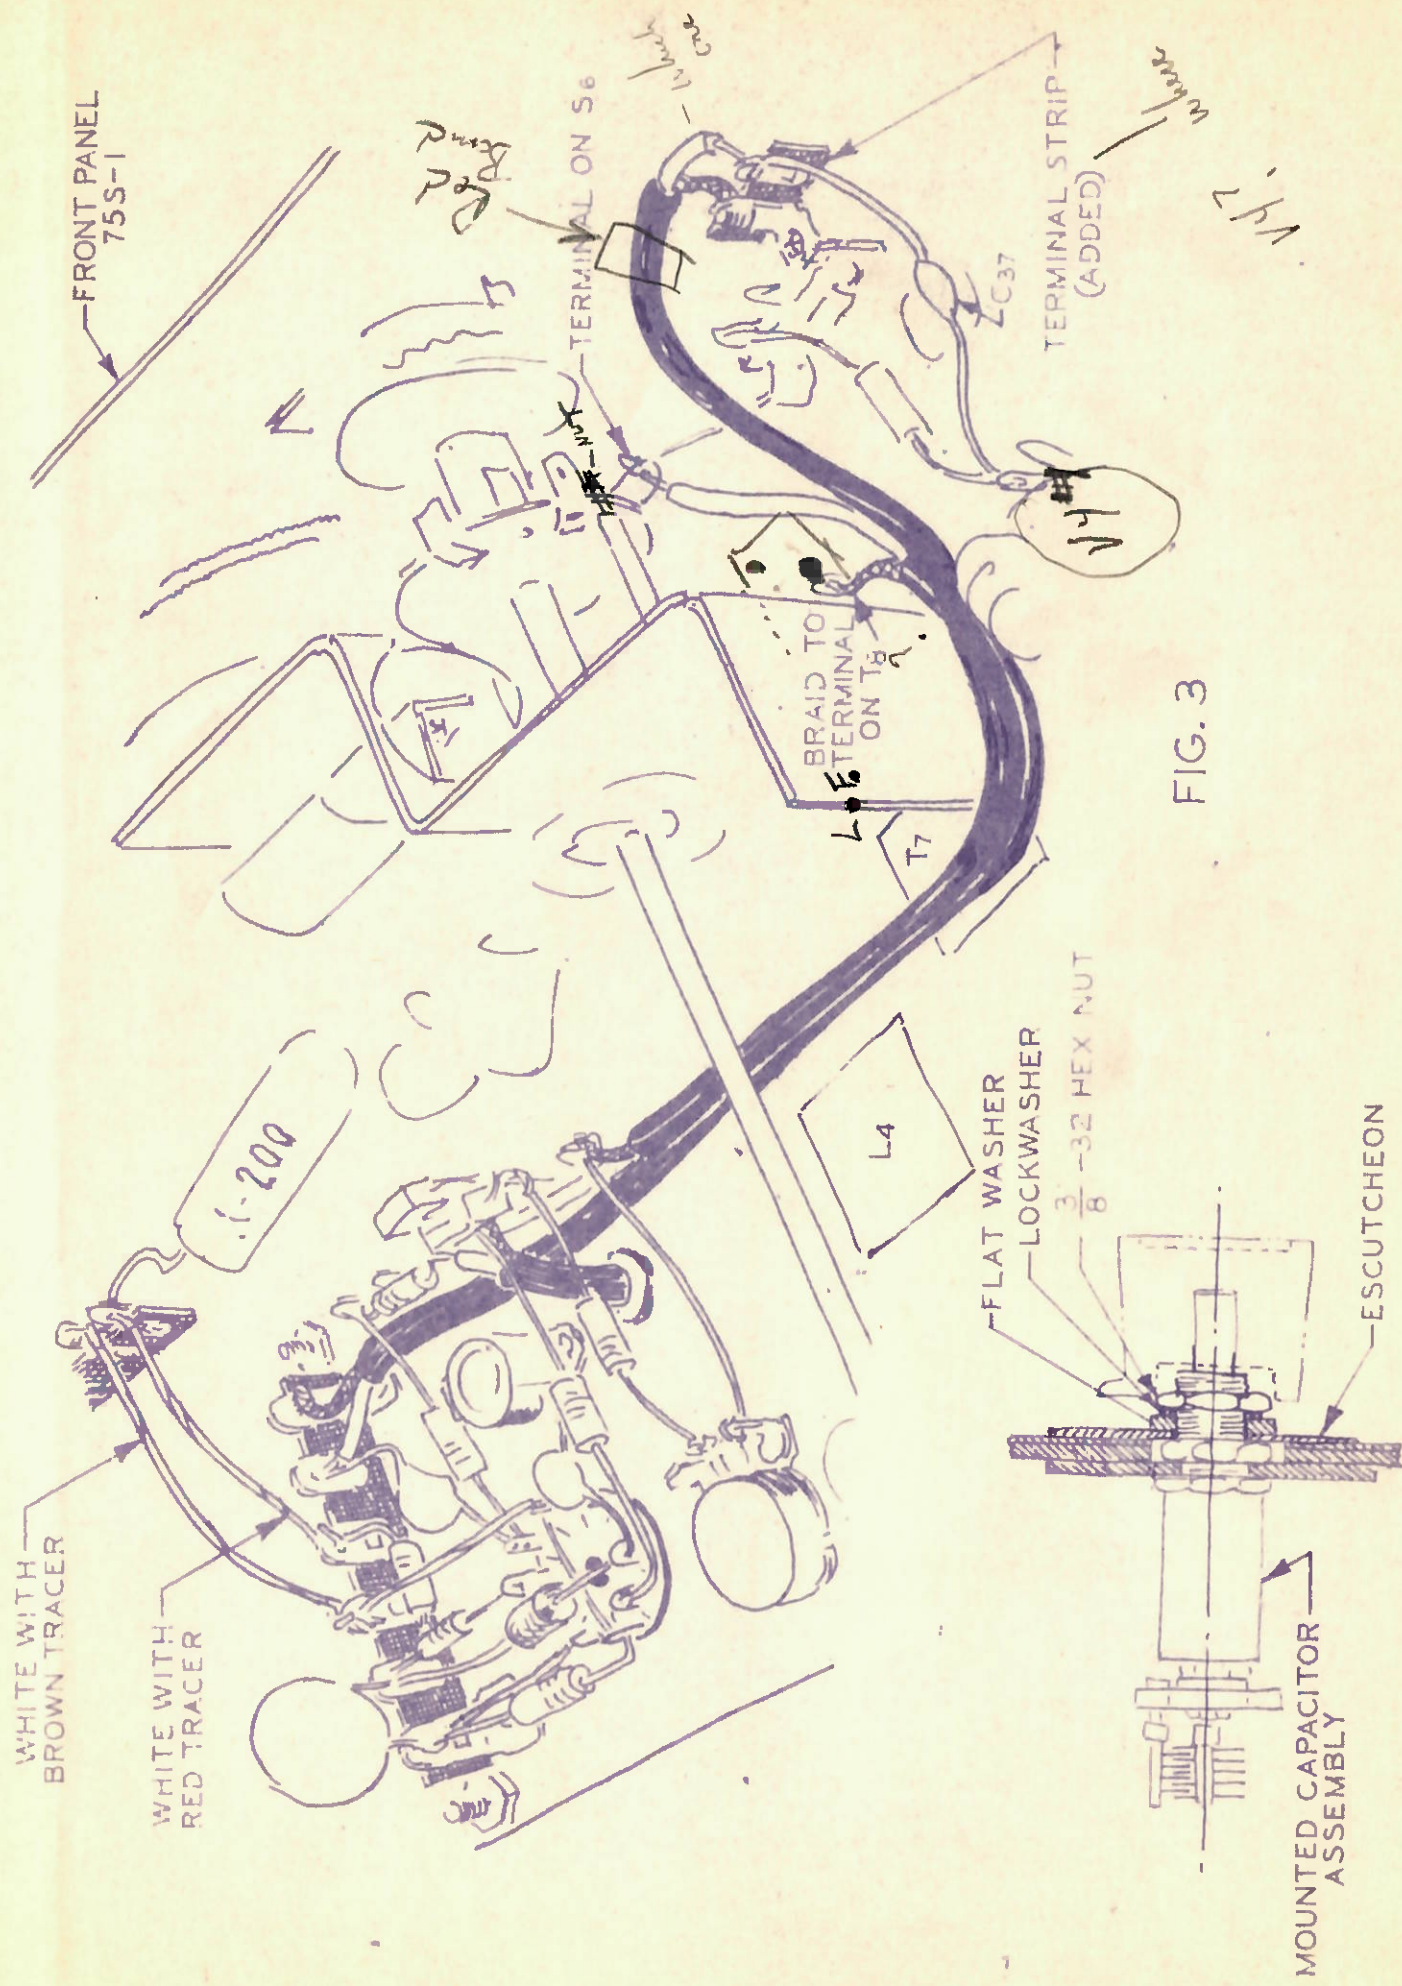

FIG. 2 CAPACITOR MOUNTING
8. Mount the variable capacitor, attached to the Waters Q-Multiplier/Notch Filter by the black cable, through the hole from which the "AF Gain" control was removed. Orient the capacitor so that when the plates are half meshed, the flat on the shaft is horizontal. Put a 3/8"-32 nut on the capacitor mount bushing and tighten. Place the escutcheon plate supplied which is marked "Rejection Tuning" over the bushing of the variable capacitor assembly and mount the capacitor assembly using a black 7/8" flat washer, a lock washer, and 3/8-32 nut. (See Fig. 2) Orient the escutcheon plate so that the lettering is horizontal and tighten the 3/8"-32 nut. Place the "AF Gain" control knob on the insulated shaft.
14. Turn the chassis upside-down once more with the front panel facing you. Dress the two coaxial leads from the Waters Q-Multiplier/Notch Filter chassis forward of L4 and behind T7, and behind and around to the left of the shield bracket which mounts S6. (See Fig. 2)